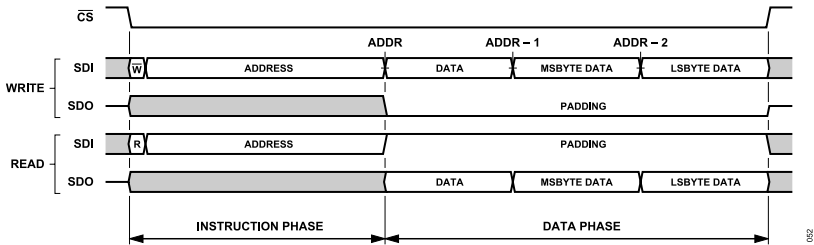
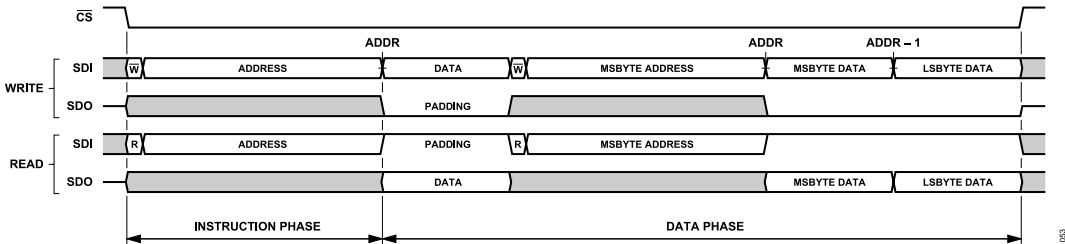
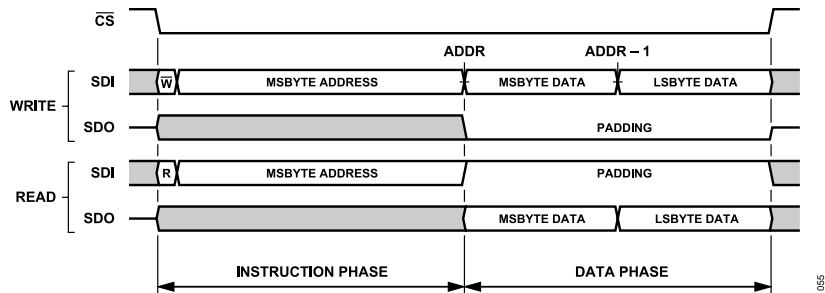
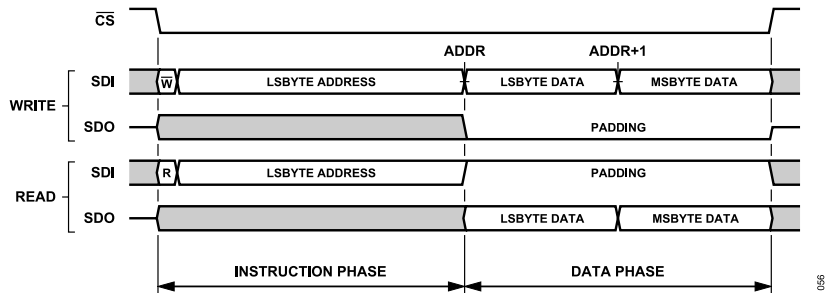

Figure 54. Interface Access Example, Default Interface Configuration, Streaming Mode (ADDR_ASCENSION = 0)
Figure 55. Interface Access Example, Single Instruction Mode (SINGLE_INST = 1), All Other Interface Options Default
Figure 57. Single Instruction Format, ADDR_ASCENSION = 0 (Descend), STRICT_REGISTER_ACCESS = 1 (Enabled)
Figure 58. Single Instruction Format, ADDR_ASCENSION = 1 (Increment), STRICT_REGISTER_ACCESS = 1 (Enabled)
Figure 54 illustrates the generic SPI frame formatting for a serial transaction using the default interface configuration. In this example, a portion of the configuration register space consisting of a byte-wide register and a multibyte register is accessed. The address for the byte-wide register resides in the most significant address (ADDR) and the most significant byte of the multibyte register resides in the least significant address of the register segment. By default, the ADDR_ASCENSION property is set to descending, indicating that the address for the most significant register is passed to the host controller during the instruction phase. Depending on the selected operation, the instruction word
In single instruction mode (SINGLE_INST = 1), the memory access controller requires an instruction phase to transmit for each register accessed in a given SPI frame as illustrated in Figure 55. This mode is useful when access to nonadjacent sections of the register space is required in a given SPI frame. Note that, the same access flexibility can be achieved in stream mode by initiating a new SPI frame for each unique register access.
The address ascension selection (ADDR_ASCENSION) bit, as described in previous sections, determines how the internal interface address pointer is updated for each byte of data transmitted to the AD4083 in streaming mode (SINGLE_INST = 0). If using single instruction mode (SINGLE_INST = 1), each register is directly addressed through its own instruction phase as illustrated in Figure 55, and thus, the address pointer is not updated. Regardless of the setting for SINGLE_INST, the ADDR_ASCENSION bit directly impacts the formatting of the SPI frame in terms of selection of the instruction phase starting address and byte order of the data phase payload. This impact is described in greater detail in the Strict Access Selection and Multibyte Registers section as much of the data formatting is dependent on this interface configuration selection. The ADDR_ASCENSION selection bit is located in the Interface Configuration A register (see the Interface Configuration A Register section, Address 0x00).
As indicated in Figure 57, the address counter, by default, automatically decrements (ADDR_ASCENSION = 0) such that the most significant byte of the multibyte register is accessed first, followed
As an extension of this concept, when STRICT_REGISTER_ACCESS = 1, any SPI frame that accesses a multibyte register as the first entity in the data transfer must correctly set the starting address in the instruction word to correspond to the ADDR_ASCENSION selection. In the case that the address counter automatically decrements (ADDR_ASCENSION = 0), the starting address is assigned to the register address for the least significant byte of that multibyte register, and conversely, if configured to increment automatically, the starting address must be set to the register address for the most significant byte. As a result of the change to ADDR_ASCENSION from automatic address decrement (0) to automatic increment (1), Figure 54 and Figure 55 will change as illustrated in Figure 57 and Figure 58 to accommodate the changes in data phase byte order and instruction phase multibyte register start address.